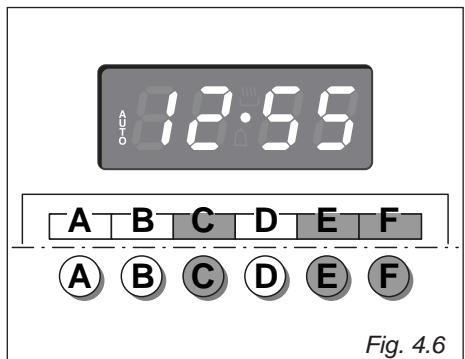

Fig. 4.6
2. Set the end of the cooking time by pressing the “C” button (the cooking time already added to the clock time will appear) and the “F” button (fig. 4.6); if you pass the desired time you may get back by pushing the “E” button.